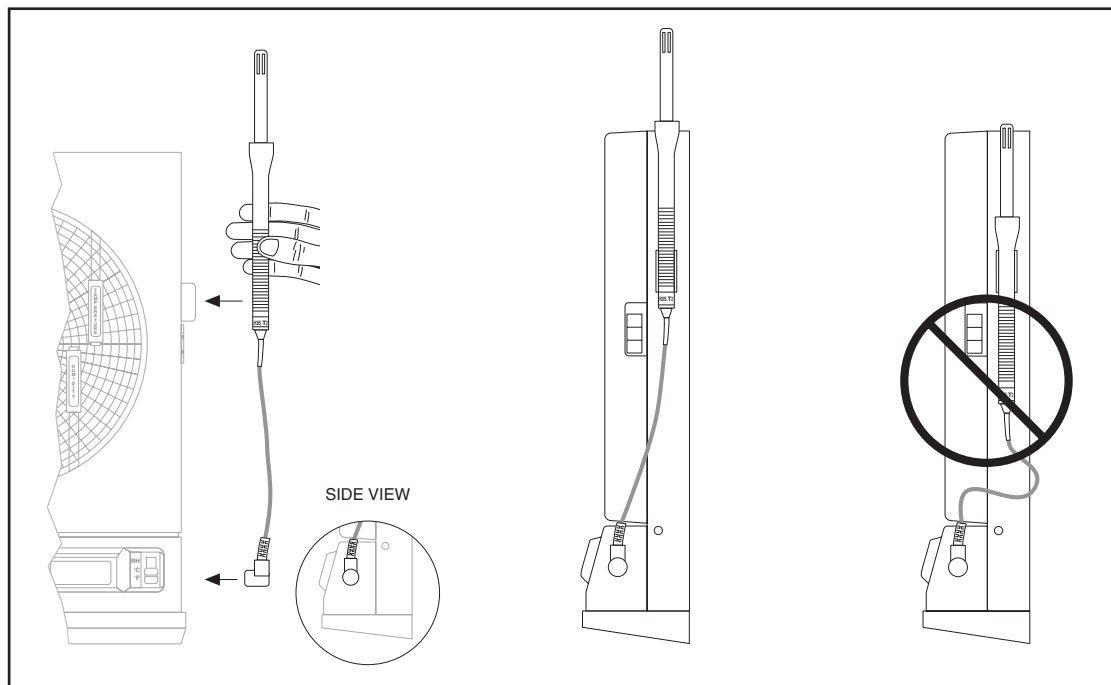

Figure 2-15. Attaching the Sensor (left picture), Correct Position (center), Incorrect Position (right)
1. Place the handle part of the sensor in to the sensor clip on the side of the recorder as shown in Figure 2-15.
3. Slide the sensor up so that the sensor vents are well above the top of the case. Refer to the center picture in Figure 2-15.